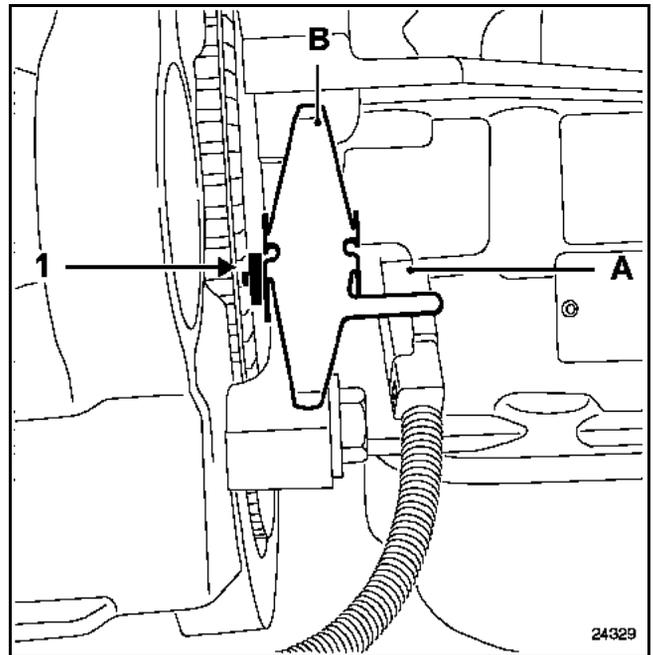

Fig. 1
- Replace the TDC sensor (A) and its mounting clip (B) (Fig. 1).
- The TDC sensor **MUST** butt up to the flywheel (1) (Fig. 1).